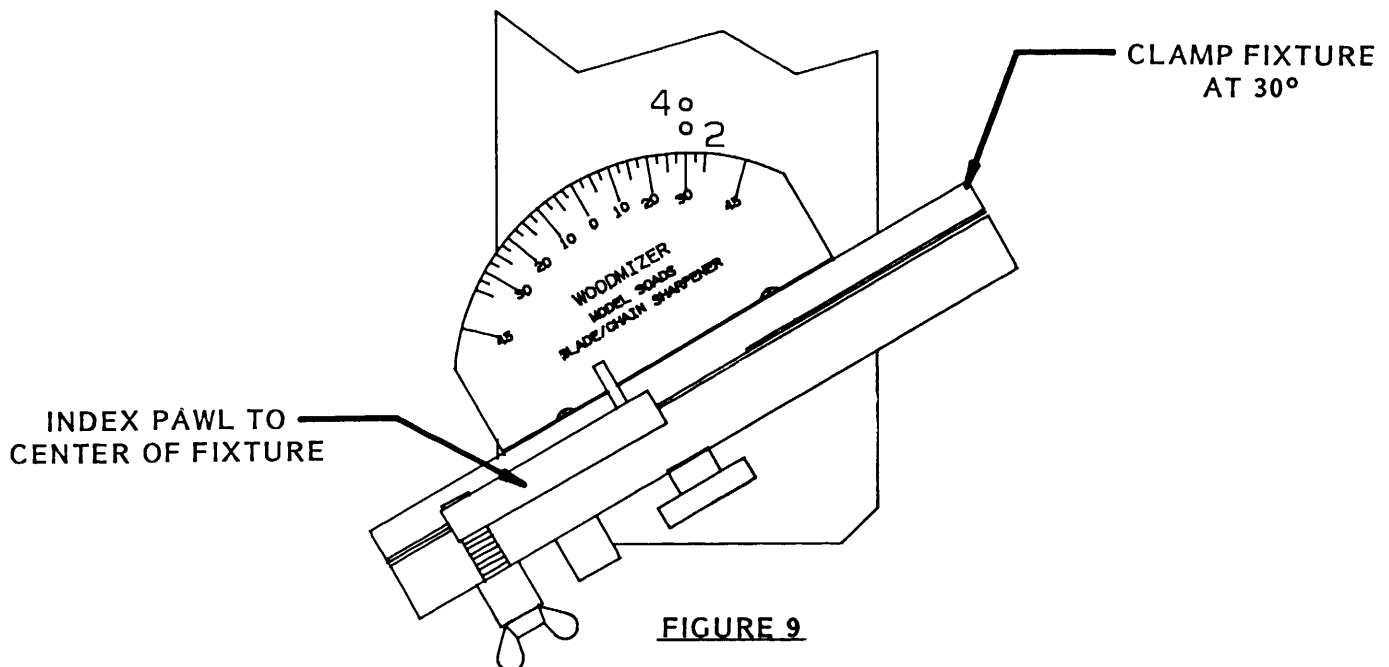

FIGURE 9
10. Set TOP PLATE ANGLE by setting the protractor of the clamping plate assembly to the desired angle. (See Figure 9.) (We will use 30° for an example.) The clamping plate assembly will be moved from front to back as the wheel wears, to keep the blade in proper placement with the wheel.